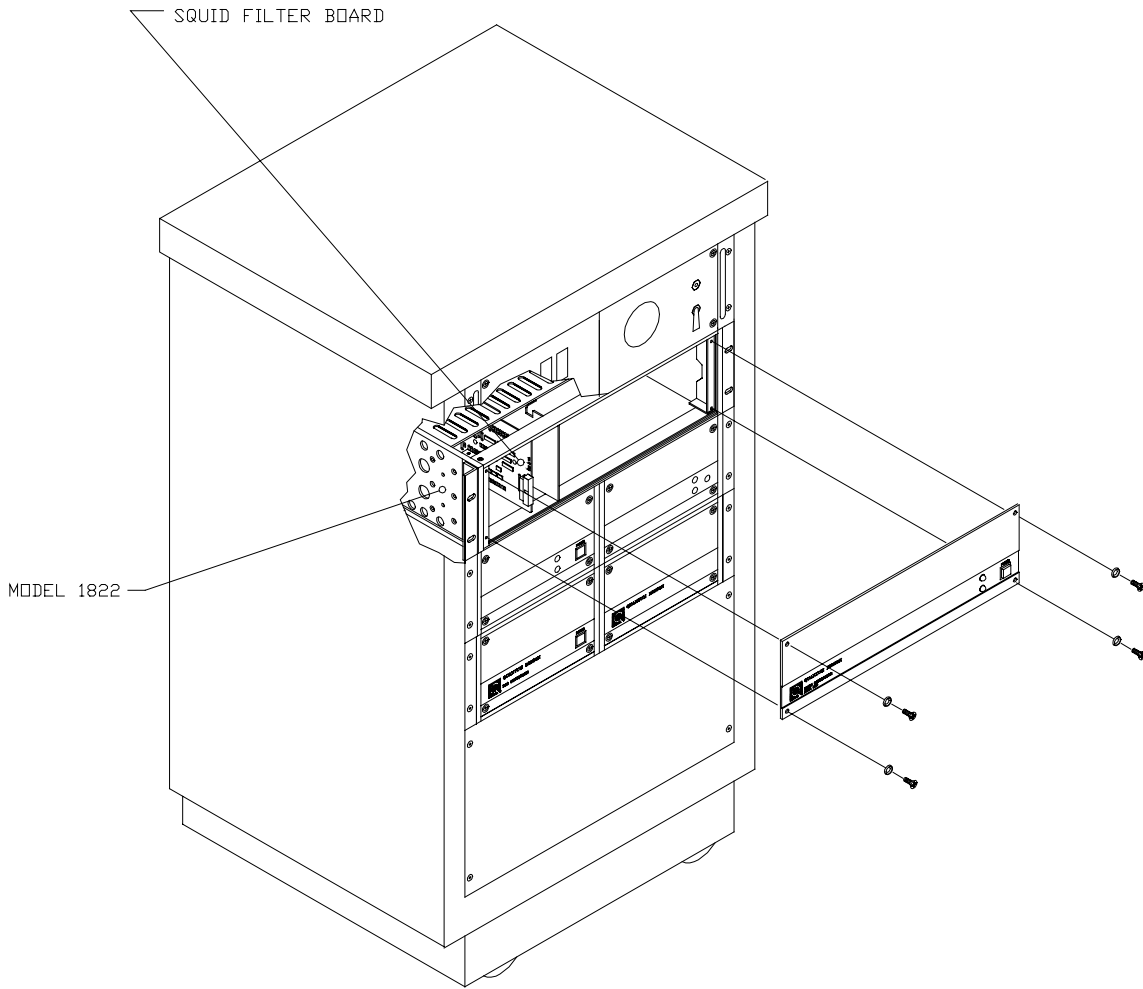

Figure 10. The SQUID Filter Board in the 1822.
- a. Remove the front panel of the 1822 by removing the four screws in each corner of the panel (**Figure 10**).
- c. Locate the SQUID filter board(s) shown in **Figure 9** and **Figure 10**. Notice the additional board for systems with the transverse SQUID option.